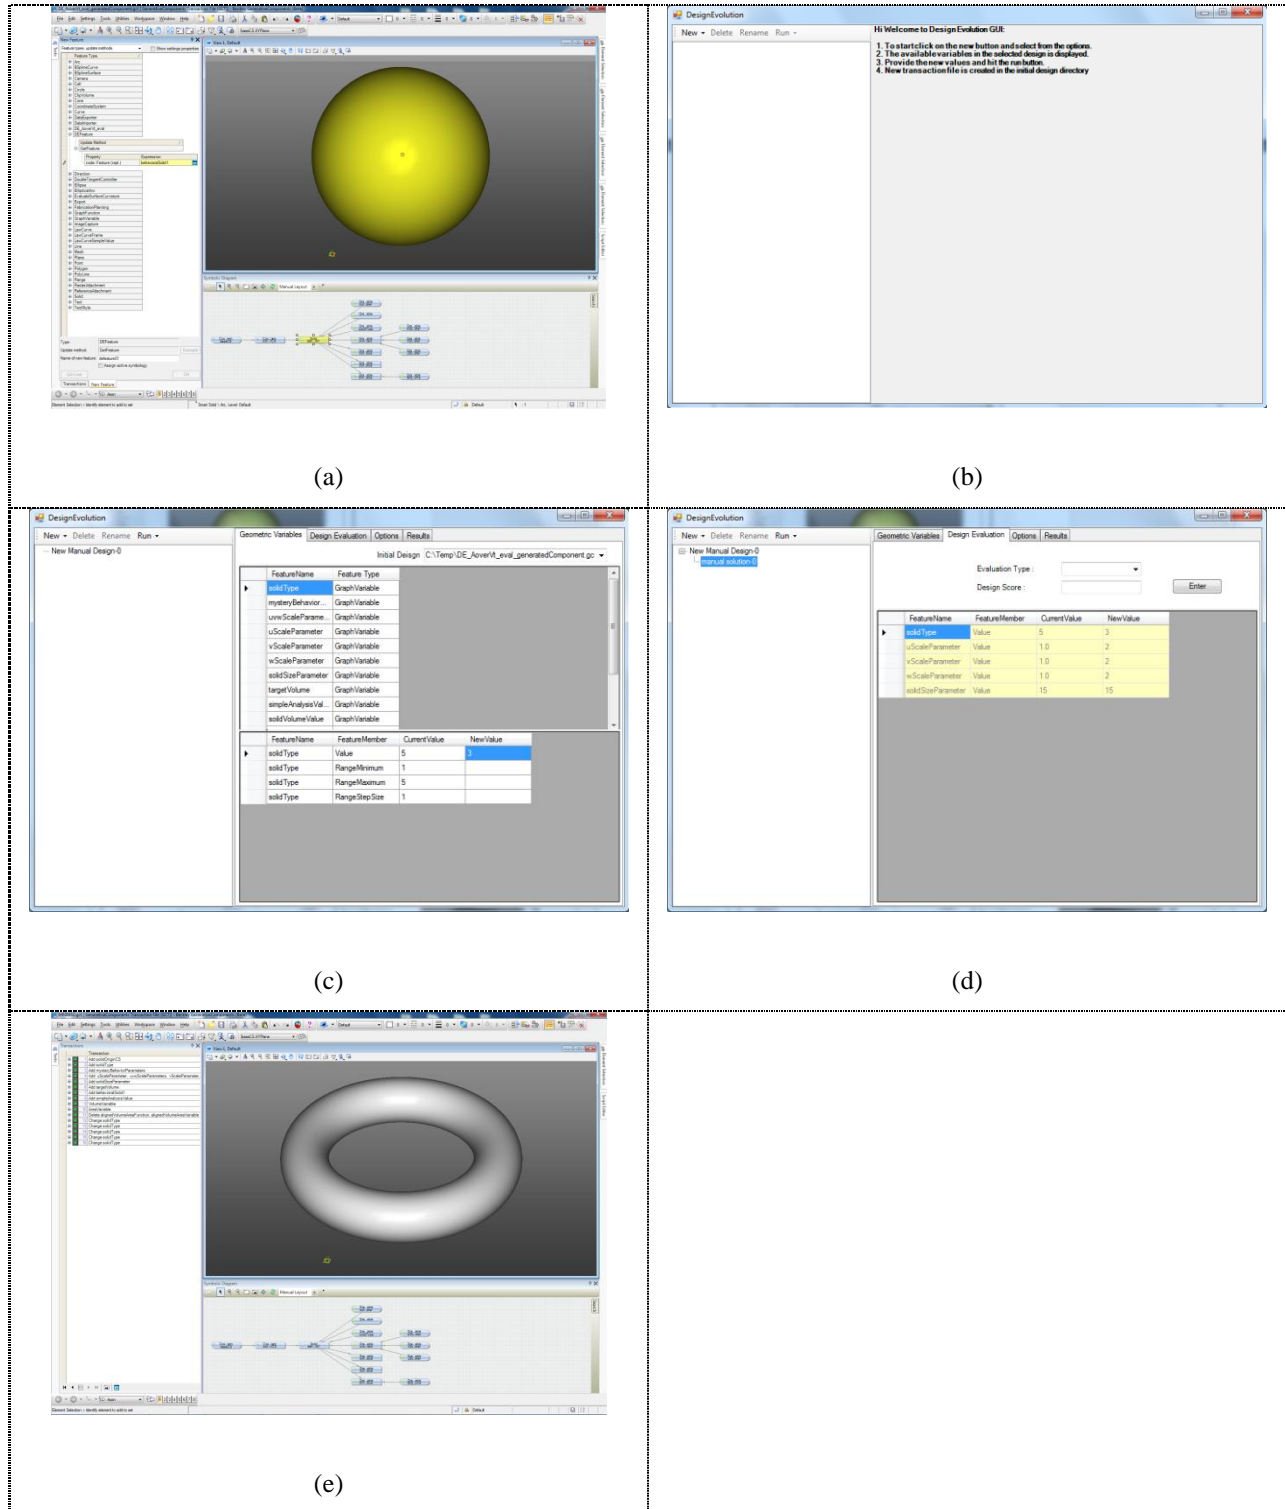
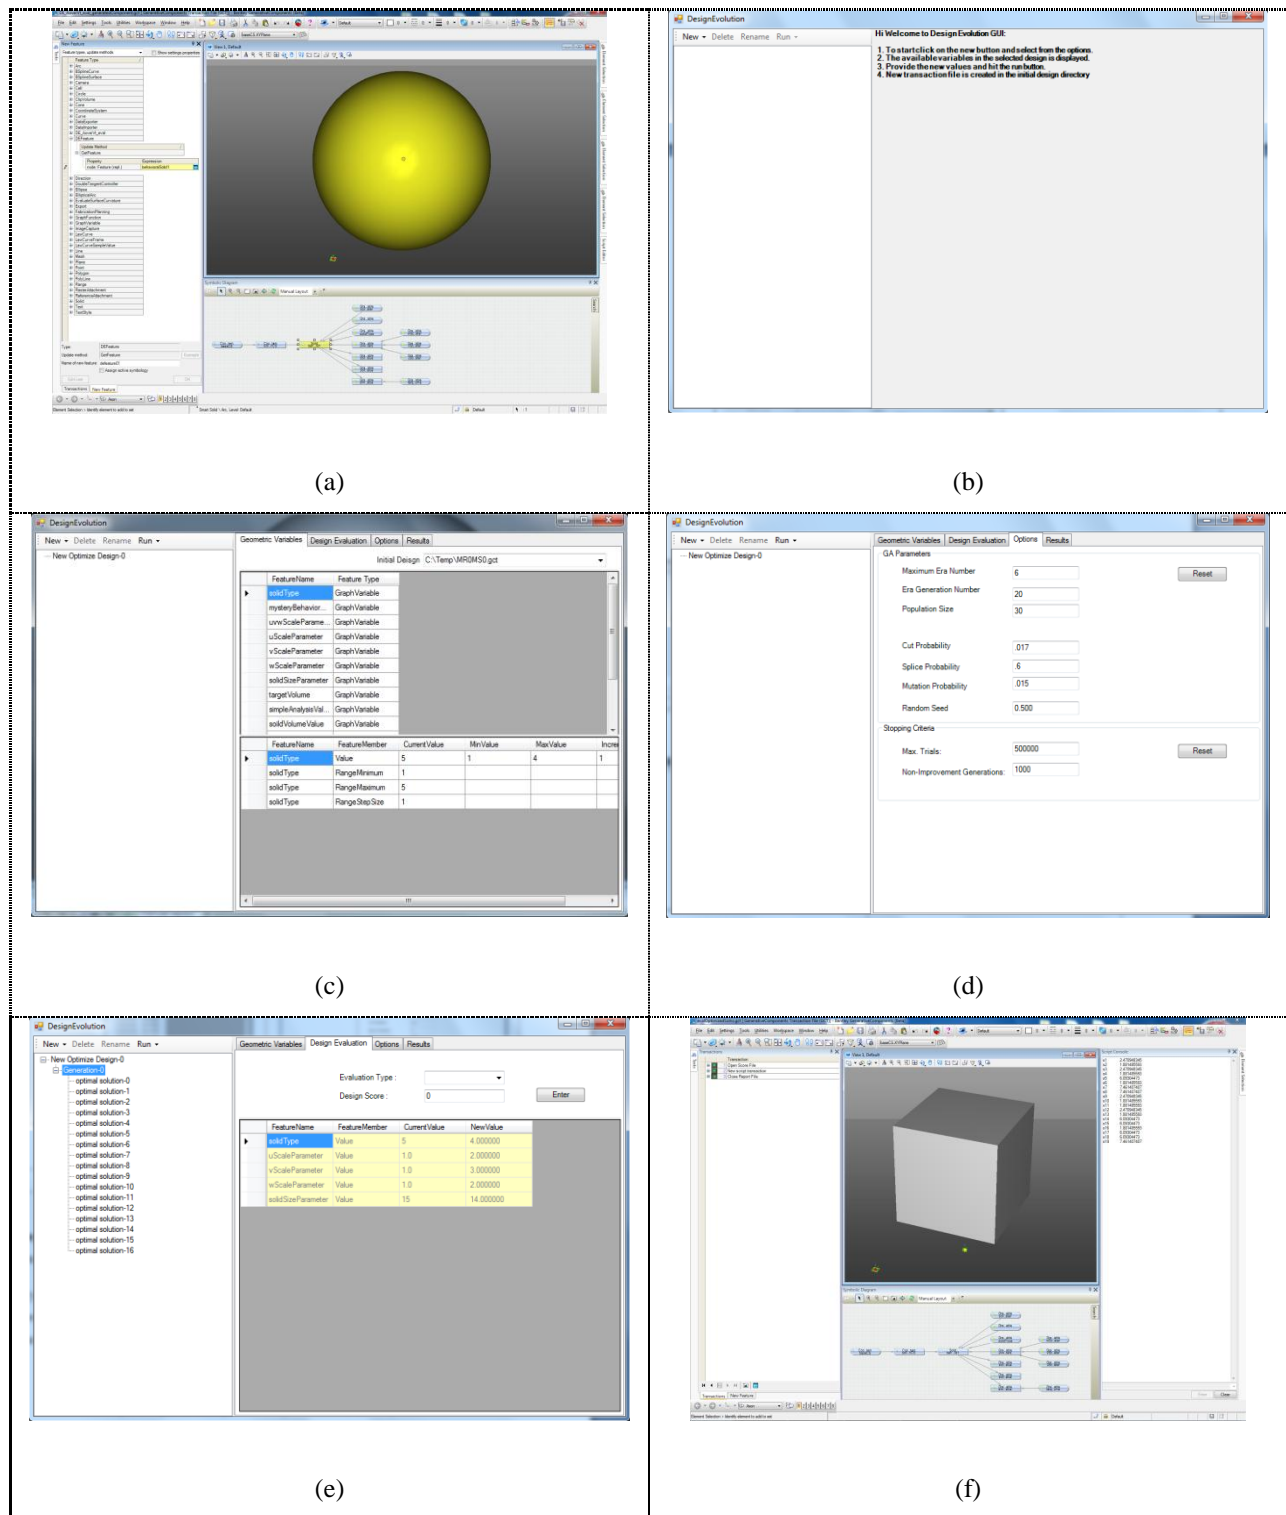

Figure 20 Manual Design Run
Figure 21 Optimal Design Run
Step 1: Either open or create an initial design in the GC environment. The design must be reasonably well, representing the basic functions that the design needs to provide (Figure 20 (a)).
Step 2: Start the Design Evolution tool, which is implemented as a feature in the GC environment as shown in Figure 20 (b). In order to access our DE application, it should be loaded into the GC environment as an assembly. In order to do that go to Utilities→Manage Feature Types→Loaded Assemblies, and select Precompiled Assembly File and load our “DEFeature.dll” which is provided to you and copied to the related folder before. This procedure is explained in details in section 2.
Once the assembly is loaded into the GC environment, the DE Application is visible with the name “Design Evolution” as shown in the Figure 20 (b). You can pass any of the features in the input design to initialize the application.
If this is the first run and there is no pre-existing data, you see our DE GUI with a welcome screen as shown in Figure 20 (b), and the new menu button is activated enabling the user to choose either manual design run or optimal design run. As this section demonstrate the creation of a **manual design**, click on the new manual design run button.
As shown in the Figure 20 (c), the available design features and their feature type are displayed in the top table. Once a feature is selected their corresponding properties are displayed in the bottom table. The current value of the property is also displayed in the table. The user needs to give a new value to the property which he is interested to change. For example change solid type to 3 and solid size parameter to 15. Figure 20 (c) shows the user inputs.
After providing the new values and new manual design run is clicked, a new manual design is created with the user defined parameter values in the same folder as the input design file is (which is C:\Temp for this example) with name "MROMSO.gct". A child node is added to the tree view which corresponds to the manual design file created. If this node is selected, the optimal parameters in the new design file are displayed as shown in Figure 20 (d). The current value and new value are displayed.
In order to view the new design file, run a new GC environment and open the new created "MROMSO.gct" file which is located in "C:\Temp" folder to see the new designed model (Figure 20 (e)).
Step 1: Either open or create an initial design in the GC environment. The design must be reasonably well, representing the basic functions that the design needs to provide (Figure 21 (a)).
Step 2: Start the Design Evolution tool, which is implemented as a feature in the GC environment as shown in Figure 21 (b). In order to access our DE application, it should be loaded into the GC environment as an assembly. In order to do that go to Utilities→Manage Feature Types→Loaded Assemblies, and select Precompiled Assembly File and load our “DEFeature.dll” which is provided to you and copied to the related folder before. This procedure is explained in details in section 2.
Once the assembly is loaded into the GC environment, the DE Application is visible with the name “Design Evolution” as shown in the Figure 21 (b). You can pass any of the features in the input design to initialize the application.
If this is the first run and there is no pre-existing data, you see our DE GUI with a welcome screen as shown in Figure 21 (b), and the new menu button is activated enabling the user to choose either manual design run or optimal design run. As this section demonstrate the creation of an **optimal design**, click on the new optimal design run button.
If you compare the Figure 20 (c) with Figure 21 (c), you need to enter the range of the parameters to be specified as opposed to new value in manual design run. User need to specify the minimum, maximum and increment values for each of the parameter that needs to be optimized. Set the engine parameters which includes the number of design alternatives to be generated for each iteration/generation and other related optimization settings as shown in Figure 21 (d).
Initial Generation of the population is generated by the DE engine. As shown in the Figure 21 (e) the initial set of optimal solutions are created and are added as nodes to the tree view. Clicking on the optimal solution node display the corresponding optimal solution parameters in the design evaluation in the same way as the manual design run. DE application creates an input file based on the user input as discussed earlier. DE file uses the engine solution file to create new optimal design files.
As discussed in this chapter, the design evaluation module creates the design evaluation script file, which is in the same folder of the initial design (here for this example it is C:\Temp). Open the evaluation file in a new GC environment and execute all the transactions (Figure 21 (f)). This ensures that all the